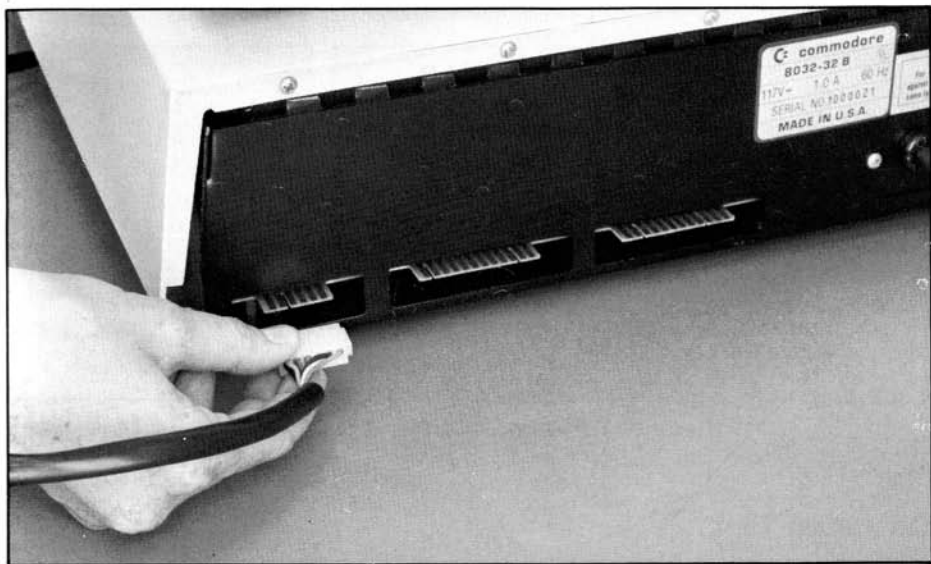

Figure 1-12. Connecting Second External Cassette Unit to CBM Computer
3. Gently push the plug onto the interface as in Figure 1-12. *Do not force the connection.*